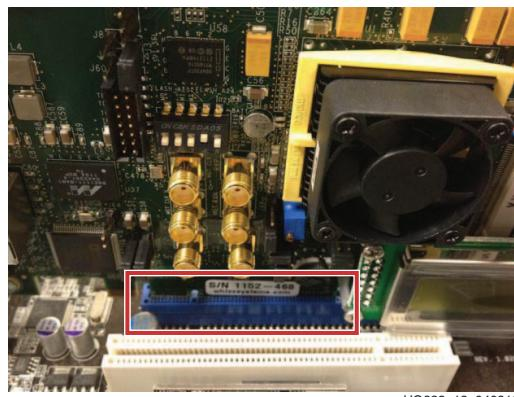

Figure 12: KC705 Board Plugged into a PCIe x16 Slot
1. With the host system switched off, insert the KC705 board in the PCIe slot through the PCI Express x8 or x16 edge connector (Figure 12).